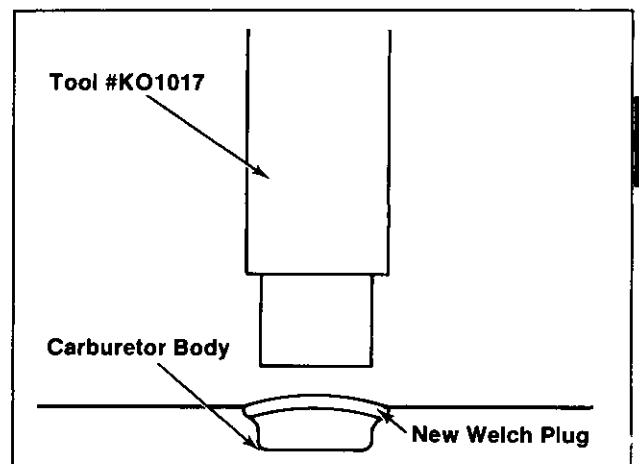

**Figure 6B-11. Installing Choke Lever/Shaft.**
2. Compress the detent ball and spring. Insert the choke lever/shaft assembly into carburetor body with the cutout portion of shaft facing the air cleaner mounting surface (refer to Figure 6B-11). Make sure the choke lever is on the correct side of carburetor body.